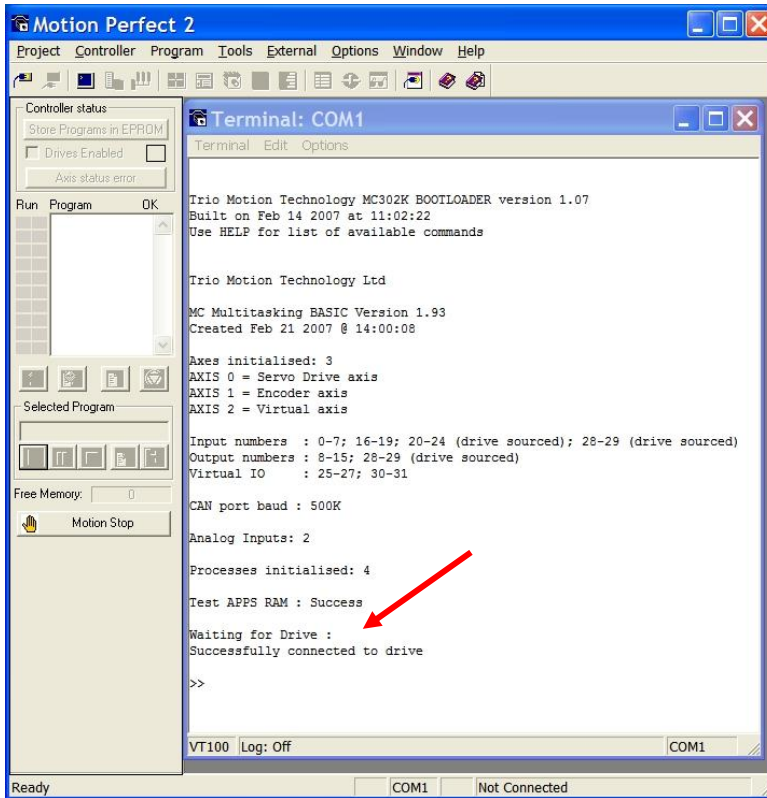

Fig 7 – Successfully configured system boot-up message
5. A properly setup system will look like Fig. 7. If the SERVO_PERIOD and/or PTBASE parameters are not set correctly, the boot-up message will look like Fig. 8. Recheck both and cycle power again.